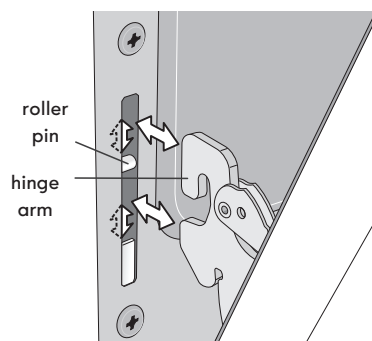

Figure 20: Hinge pin locations
5. With the oven door in the broil stop position, lift the oven door hinge arms over the roller pins located on each side of the oven frame (Figure 20).
2. Holding the oven door at the same angle as the removal position, seat the hook of the hinge arm over the roller pins located on each side of the oven door frame (Figure 20). The hook of the hinge arms must be fully seated onto the roller pins.